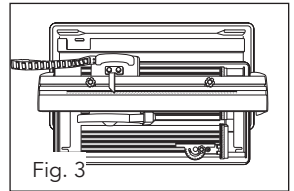

Fig. 3
3. Lift the tile cutter into the trough (3), but leave the rear third of the trough exposed for the moment (Fig. 3).